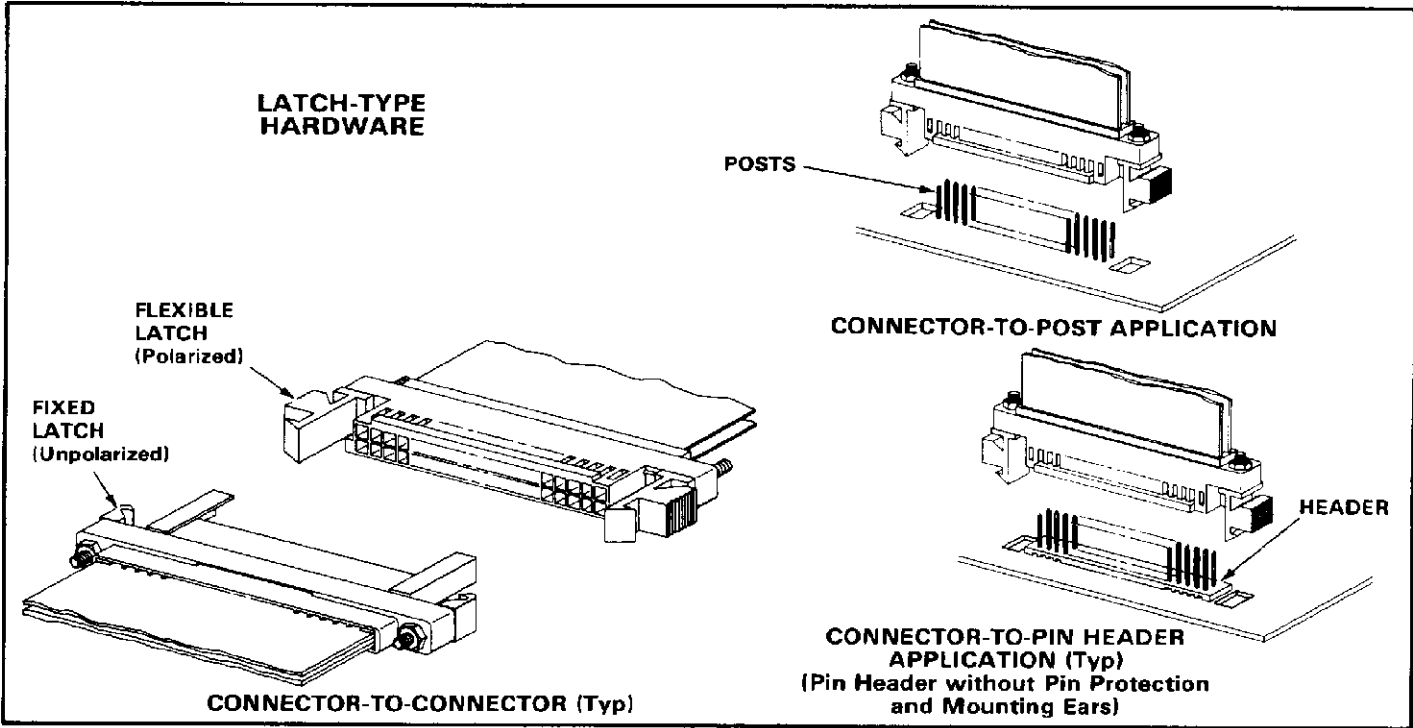

Fig. 3
The flexible latch hardware allows quick connect/disconnect applications. The hardware is available with broad or narrow latches for polarizing connectors. The flexible latches consist of two lengths. The shorter type mates with fixed latches attached to a connector or posts in a pc board. The longer type mates with posted headers installed in a pc board. See Figure 3.
1. Insert unpolarized fixed latch into the stationary connector as shown in Figure 3.
3. Install connector over posts or posted headers on pc board, making sure flexible latches mate on pc board as shown in Figure 3. To disconnect the connector, depress flexible latch tabs and pull apart.